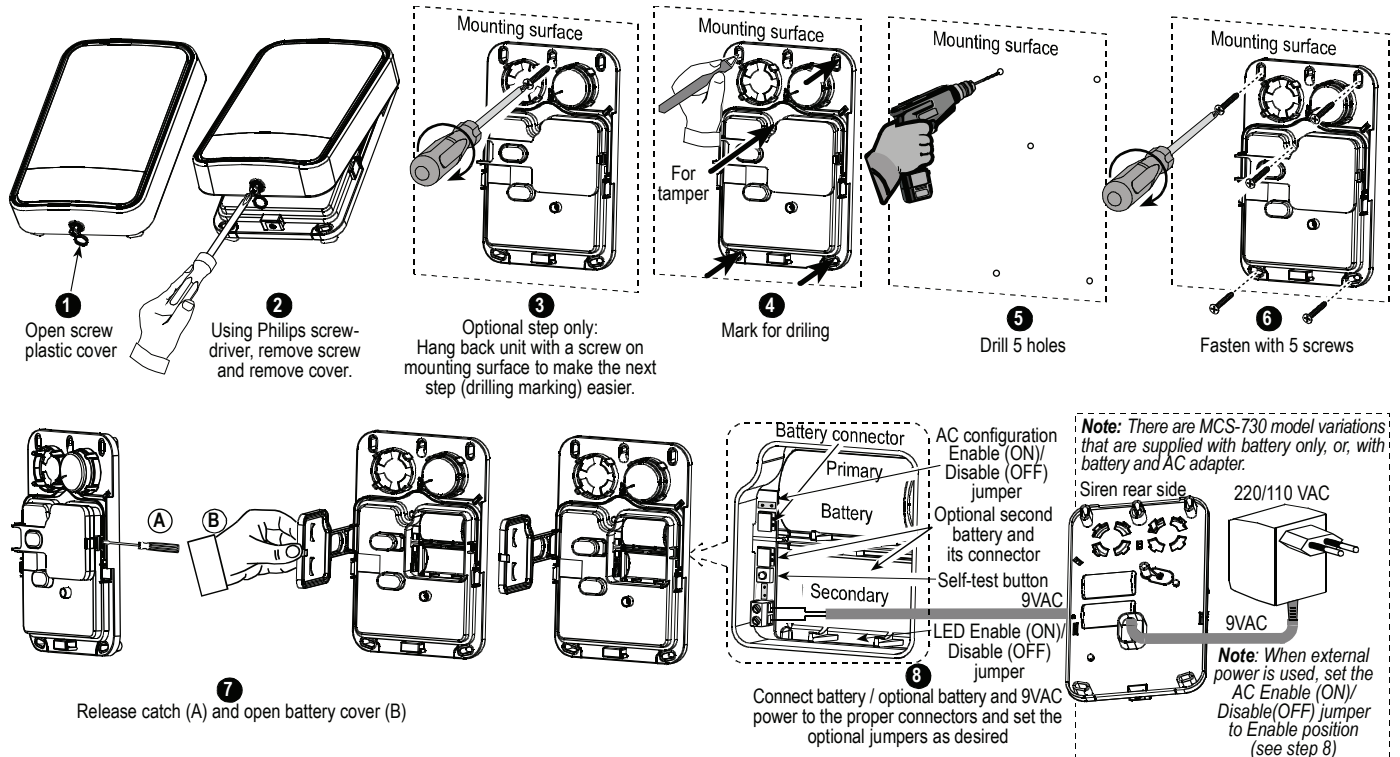

Figure 3 – Installation
- **Siren activity LED:** A flashing LED (optional, at the bottom of the siren front panel) indicates siren activity (can be disabled by an internal jumper, see fig. 3, step 8)
Press the self test button (see figure 3 step 8). Low level piezo sounds and flash lights indicate that the siren is fully operational.
system memory, refer to the ENROLLING section of the alarm system installation instructions, and momentarily press the Self-Test button (see figure 3 step 8) when you are instructed.